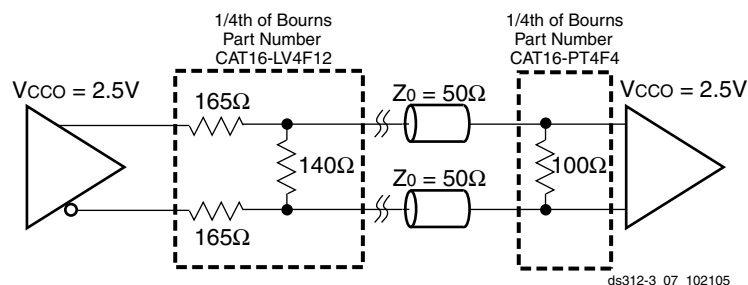

Figure 72: External Termination Resistors for BLVDS I/Os
2. Output voltage measurements for all differential standards are made with a termination resistor (R_T) of 100 Ω across the N and P pins of the differential signal pair. The exception is for BLVDS, shown in Figure 72 below.